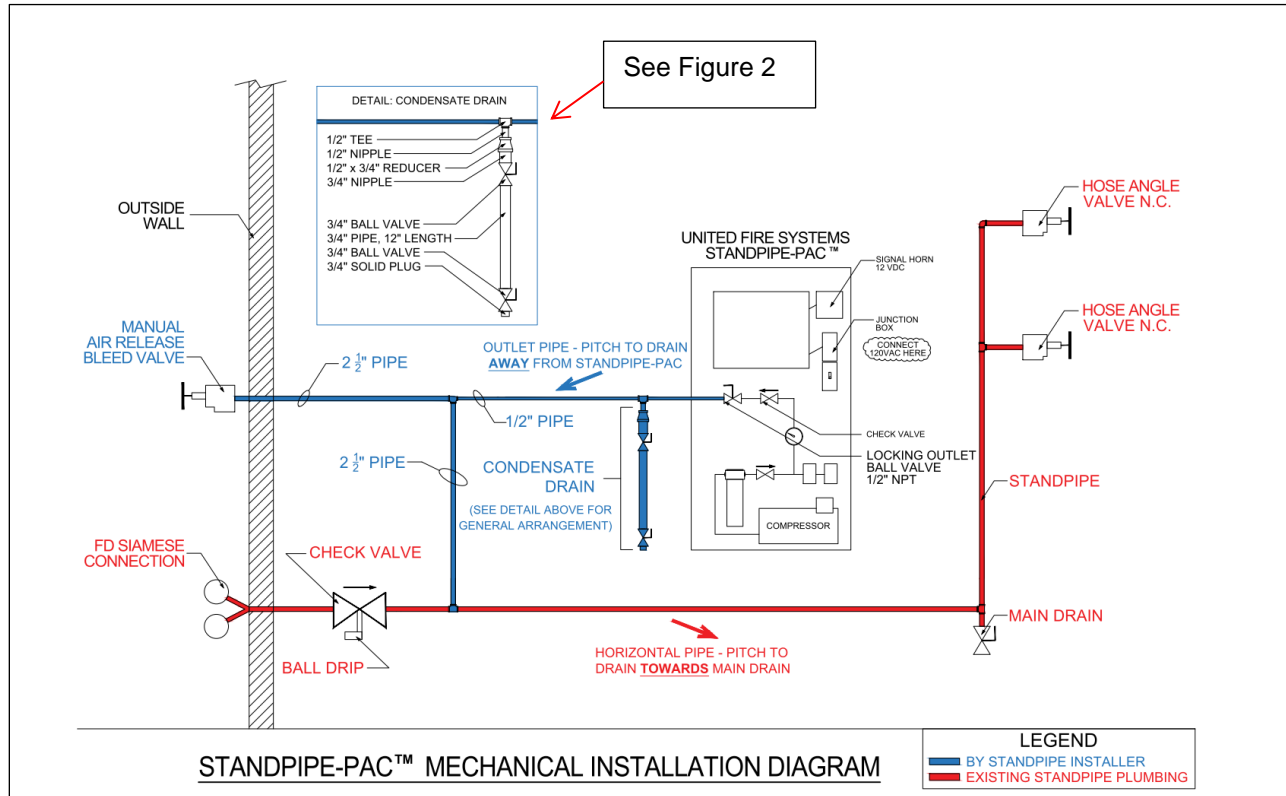
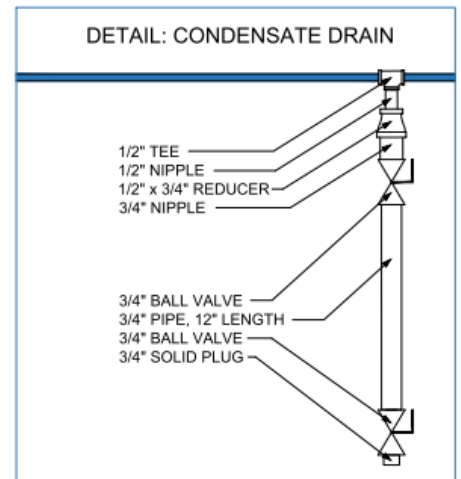

Figure 1
Figure 2
Dry standpipes installed with supervisory systems shall be installed per Figure 1 shown above. The diagram indicates several important facts:
3. A condensate draining device, as shown on Figure 1 and on Figure 2, should be installed to permit drainage of condensate without decreasing/removing the air pressure from the standpipe. This condensate drain, as shown, is commonly known as a drum drip. Follow the detail to properly install this device to permit drainage of the condensate or accumulated water on a regular basis.
Therefore, Step 1 of any method of procedure involving hydrostatic tests of the standpipe must be closing the Locking Outlet Ball Valve – 1/2" NPT, as shown on Figure 1.
The use of the condensate drain (see Figure 2) on a periodic maintenance basis and as a tool for ensuring the drainage of water after a hydrostatic test should be done by: